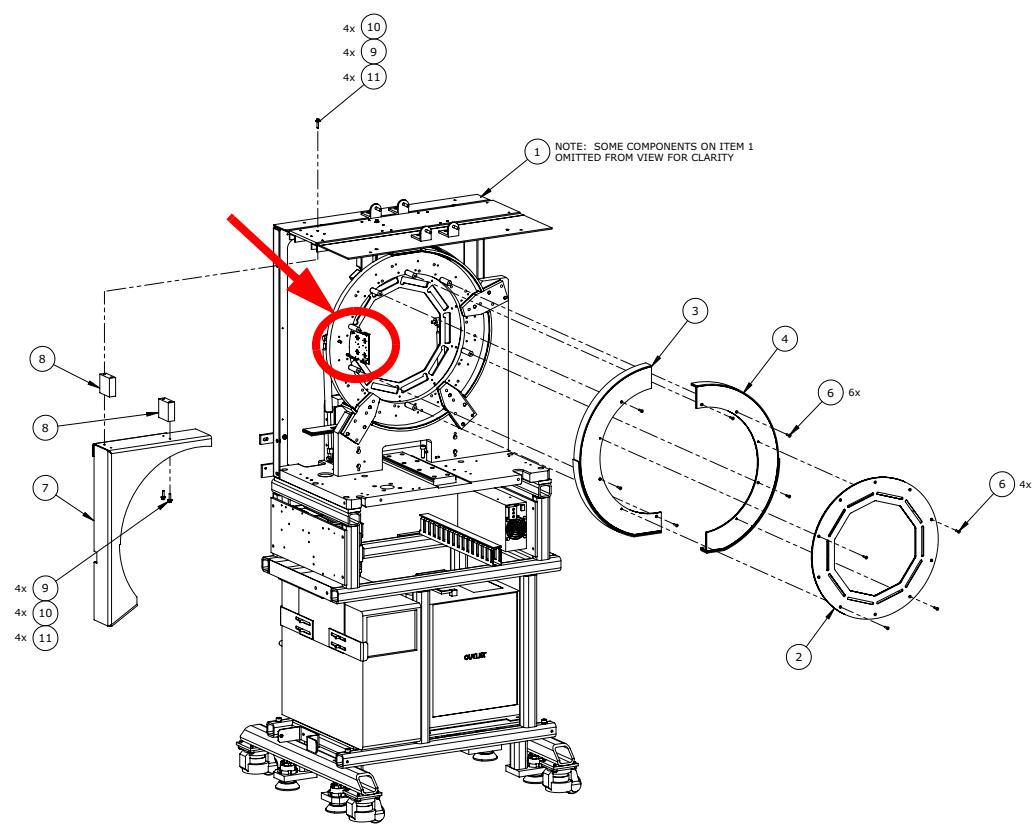

Figure 5-49
2. See circled aluminum angle plate in Figure 5-49. Remove the three allen screws attaching the plate to the Rectangular Adapter Board. (Note that the middle 1.5mm screw is longer than the other two 2.5mm screws). Remove the four (4) remaining 2mm allen screws and set aside.
3. See Figure 5-49. Remove Side Shielding (5314272, Item 7) by removing four (4) M4 hex cap screws (2109867-6, Item 10), lock washers (2109880-2, Item 9) and flat washers (2109879, Item 11) from the top of the unit. Set hardware and Shielding aside.
4. Remove four (4) #6-32 flat head screws (2390659-5, Item 6) from Rear Shield (5314265, Item 2). Slide the Shield out of the side of the machine and set aside with screws.
5. Remove three (3) screws from each of Left Side Bottom Shield (5314271, Item 3) and Right Side Bottom Shield (5314354, Item 4) and set aside with Covers.